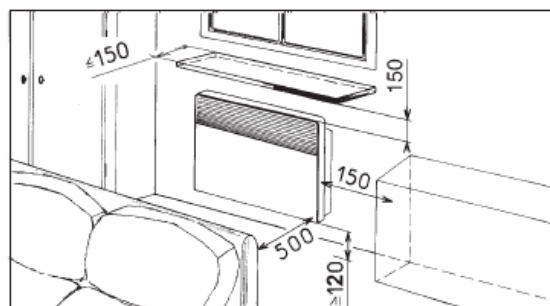

Figure 1.
1. Ensure the safety zones (shown in mm) are kept free (see Figure 1).